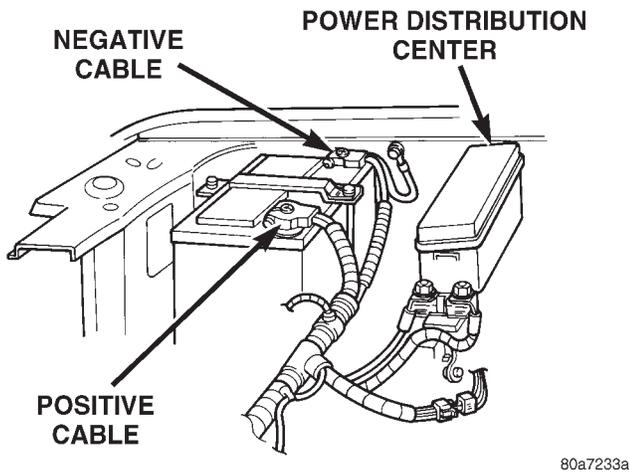

Fig. 16 Power Distribution Center
(2) Remove the cover from the Power Distribution Center (PDC) (Fig. 16).